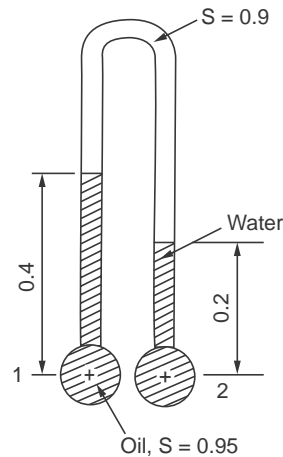

Figure E. 2.15
- E.2.15.** Determine the pressures at location 1 and 2 in Fig. E.2.15.